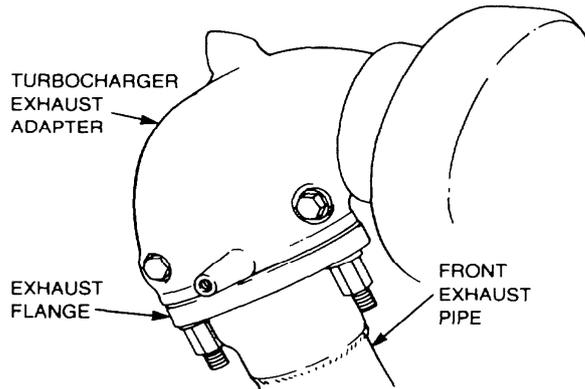

Figure 47 Exhaust Pipe to Turbocharger Removal
- f. Remove the nuts securing the exhaust pipe to the turbocharger exhaust adaptor and remove the exhaust pipe (Figure 47).